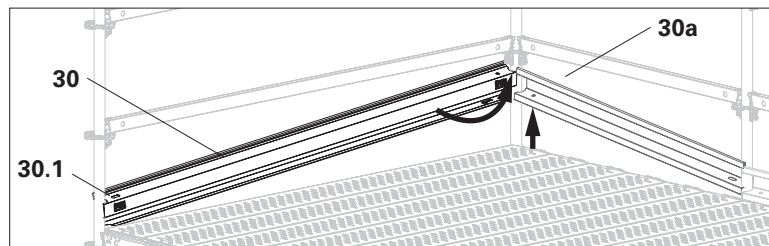

Fig. A5.04b
- Insert Toe Board UPY (30) from the outside-left first of all using the large tube cut-out (30.1).
- Raise the Toe Board UPY (30a) which has already been mounted in the bay. (Fig. A5.04b)
- Place the Toe Board UPY (30) on the second tube and simultaneously insert it into the trapezoid box (30.6) of the toe board in the corner bay.